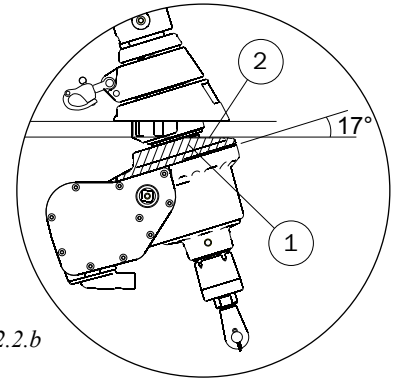

Fig. 3.2.2.b
The black collar ① (fig. 3.2.2.b) on the 300 TD-model motor unit is chamfered ② to achieve an F-measurement of 20 mm, see table 3.2.2.a.